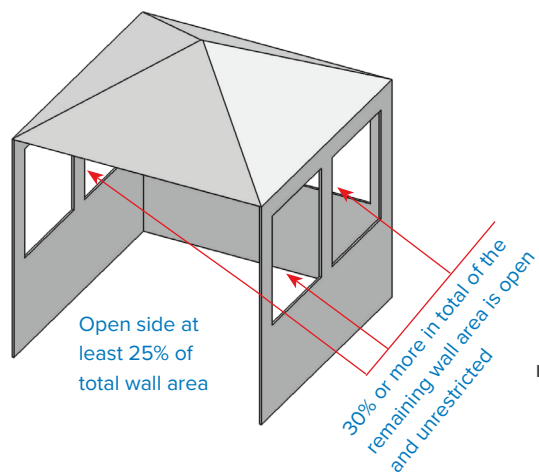

Fig. 4
- At least 30% of the remaining wall area is open and unrestricted. (Fig. 4 & Fig. 5)